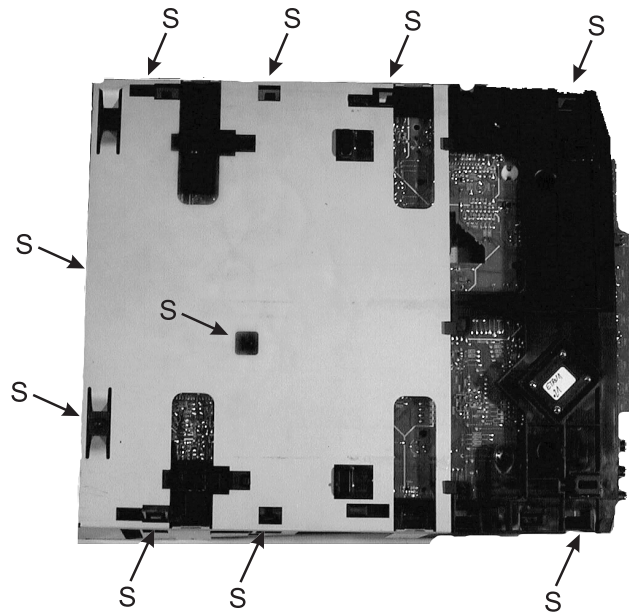

Figure 4-8
13. Turn the unit over, unlock the 10 snap-on hooks (see figure 4-8) and lift the groove upwards.